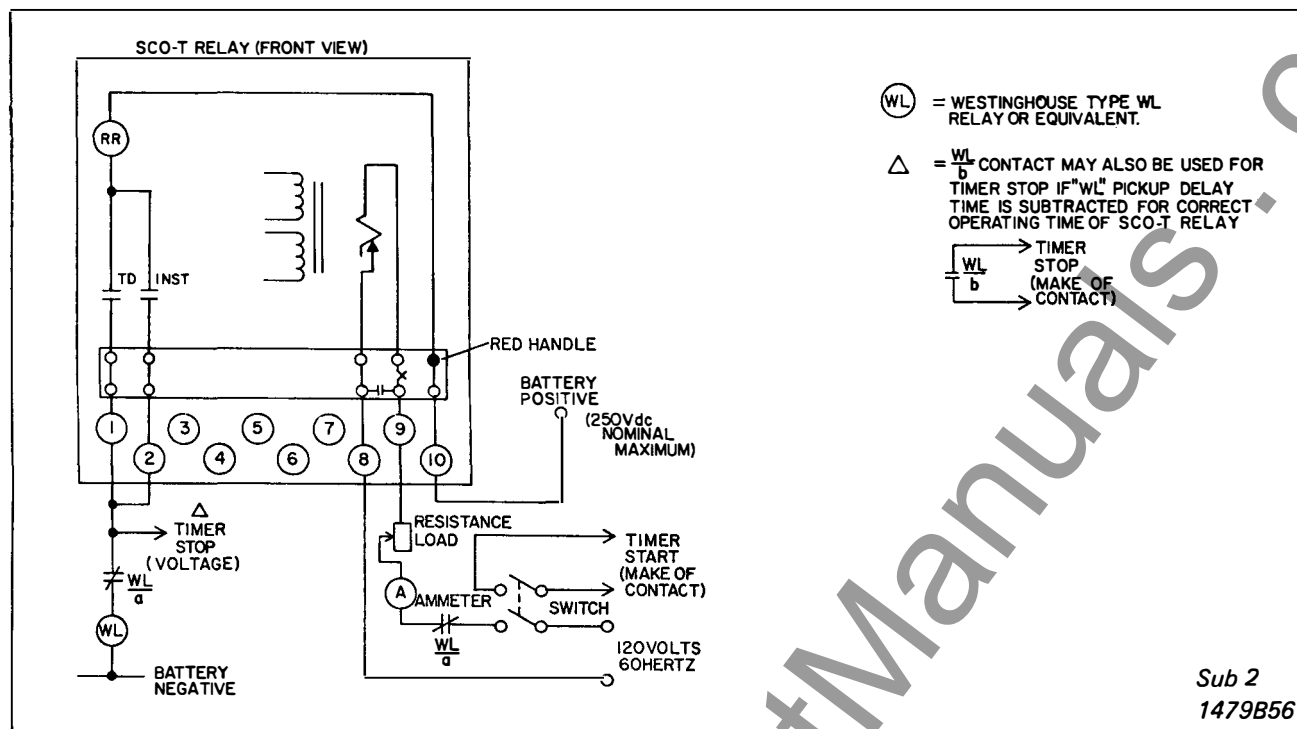

Fig. 16. Diagram of Test Connections for Type SCO-T Relay
- It is recommended that a performance check be applied to the SCO-T relay to verify that the circuits are functioning properly. The SCO-T test diagram shown in Figure 16 aids in test of the relay. Proper energization of the relay is also shown in this figure.
The proper adjustments to insure correct operation of the relay have been made at the factory and should not be disturbed after receipt by the customer. However, recalibration may be required if the adjustments or any components have been changed or SCO-T curve plug-in modules interchanged. This procedure should not be used until it is apparent that the relay is not in proper working order (See "Performance Check"). The SCO-T test diagram shown in Figure 16 aids in test of the relay. Proper energization of the relay is also shown in this figure.